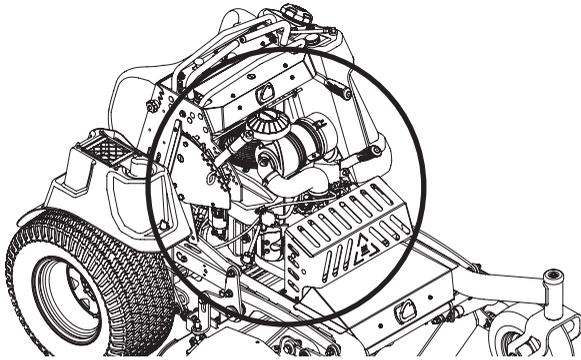

Figure 18
- Clean around the exhaust manifold, fuses, all wiring and harnesses, muffler pipe, muffler shield, engine intake screens and cooling fins, etc (Figure 18).